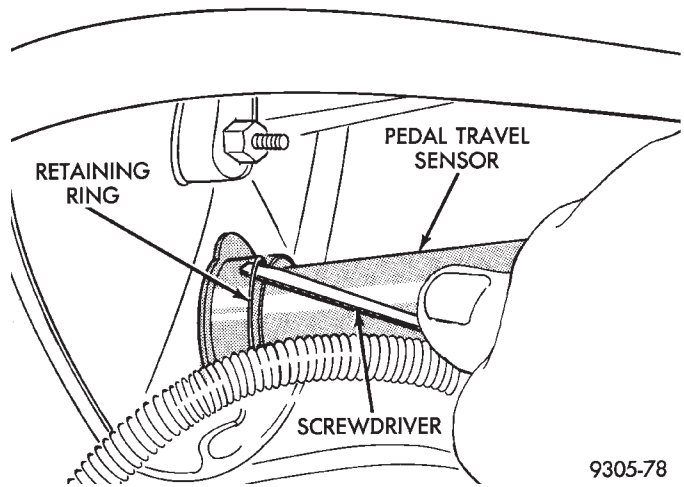

Fig. 9 Pedal Sensor Retaining Ring Removal
(15) Remove the pedal travel sensor from the brake booster using the following procedure.
- Using a small screwdriver lift retaining ring from notch (Fig. 9). Then remove retaining ring from grommet.